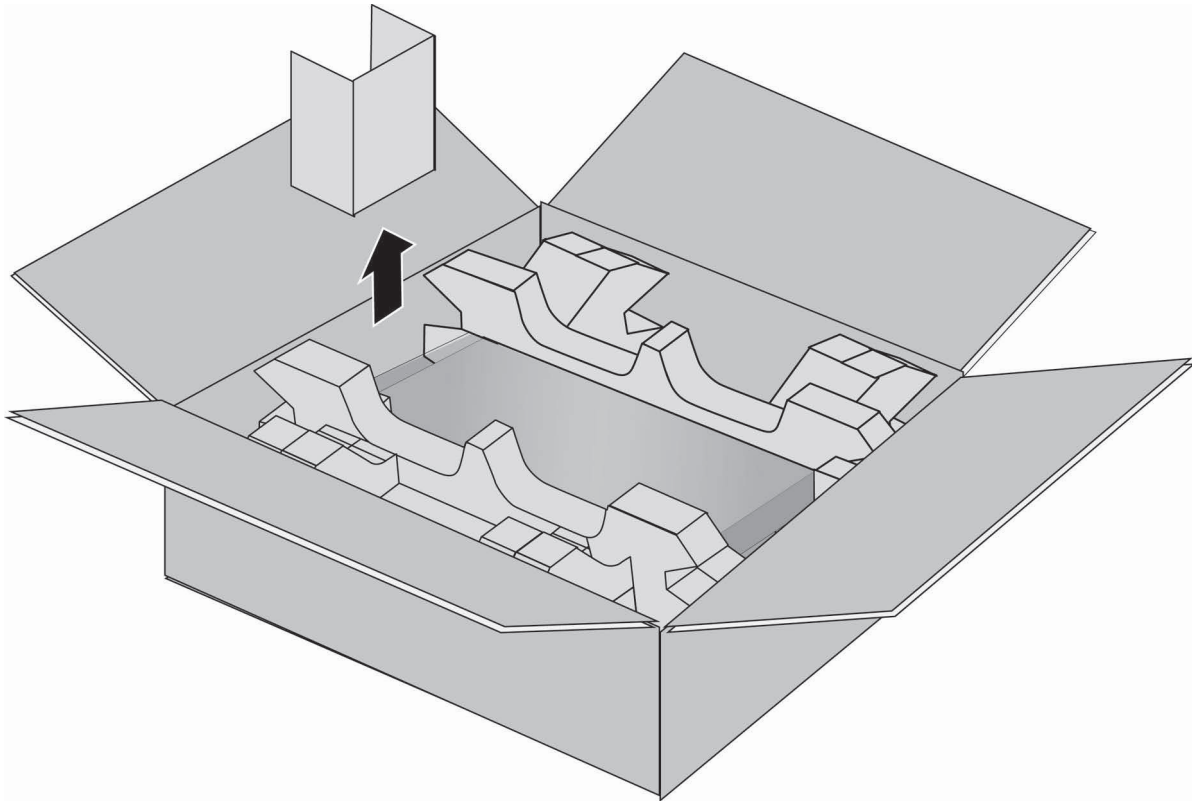

Figure 50. Removing the Shipping Partition
2. Remove the accessory partition. Refer to Figure 50 on page 118.